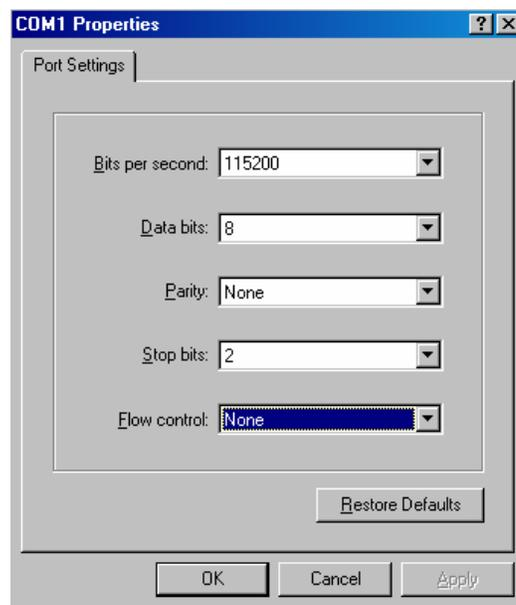

Figure 4-3: COM1 Properties
8. Press the <Enter> key or select OK. This opens the “COM Properties” window as shown in Figure 4-3.
9. Enter the information for the *COM1 Properties* settings as listed Figure 4-3.